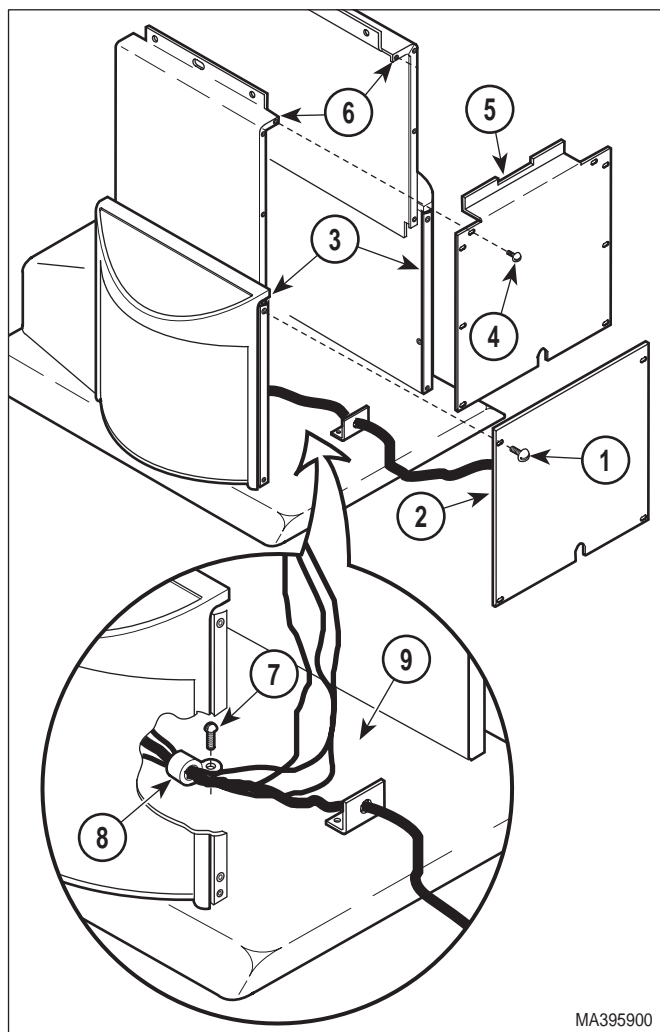
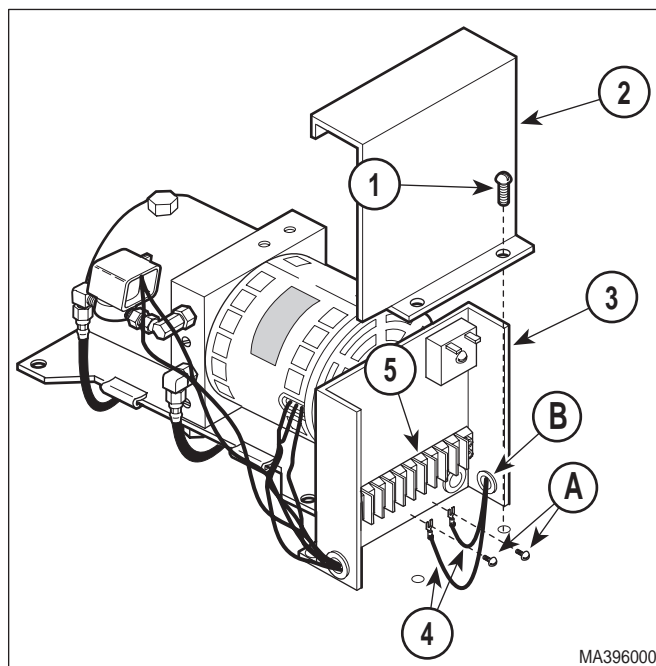
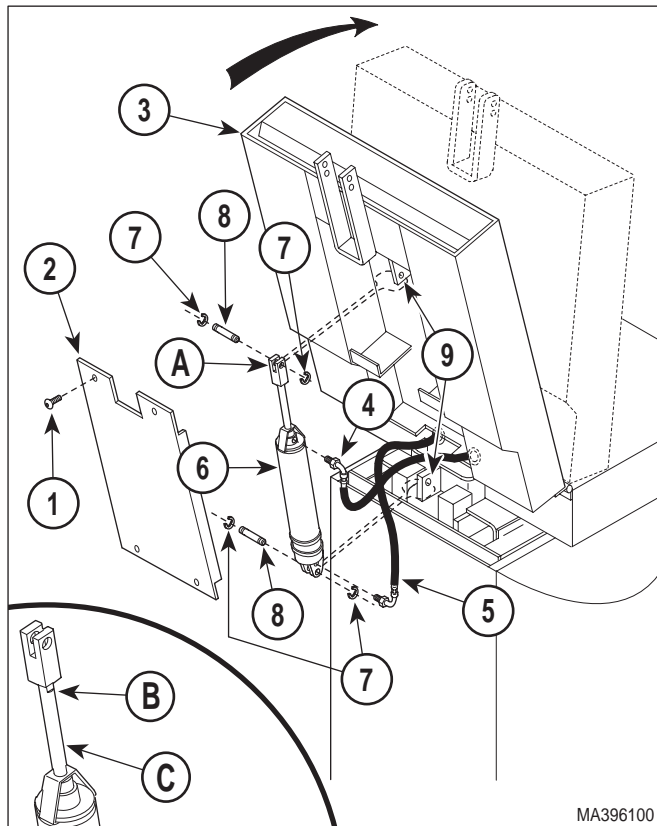

Figure 4-11. Table Access
Figure 4-12. Back Cylinder Wires Disconnection / Connection
Figure 4-13. Back Cylinder Removal / Installation
- (1) Unplug table power cord from outlet.
- (2) Remove upholstered seat section (Refer to steps 6 thru 8 of para 4.25).
- (3) Remove four screws (1, Figure 4-11) and front outer shroud (2) from left and right hand outer shrouds (3).
- (4) Remove eight screws (4) and front inner shroud (5) from left and right hand inner shrouds (6).
- (5) Remove screw (7) and wire clip (8) securing wires and hoses to base weldment (9).
- (6) Remove motor cover assembly (Refer to para 4.2).
- (7) Remove two screws (1, Figure 4-12) and control cover (2) from control panel (3).
- (8) Loosen two terminal screws (a); then tag and disconnect back cylinder wires (4) from terminal block (5).
- (9) Pull back cylinder wires (4) out thru wire hole (B).
- (10) Remove four screws (1, Figure 4-13) and back cover (2) from back weldment (3).
- (11) Cut two cable ties which are securing hose assemblies (4 and 5) to back cylinder (6).
- (12) While supporting back weldment (3), remove four E-rings (7), two clevis pins (8), and partially separate back cylinder (6) from cylinder brackets (9). Fold back section over onto seat section.
- (13) Tag hose assemblies (4 and 5).
- (14) Disconnect hose assembly (4) from back cylinder (6).
- (1) Connect hose assembly (5, Figure 4-13) to back cylinder (6).
- (2) Connect hose assembly (4) to back cylinder (6).
- (3) Install back cylinder (6) on cylinder brackets (9) and secure with two clevis pins (8) through clevis (A) with four E-rings (7).
- (4) Secure hose assemblies (4 and 5) to back cylinder (6) with two cable ties.
- (5) Route back cylinder wires (4, Figure 4-12) thru table.
- (6) Feed back cylinder wires (4) thru wire hole (B).
- (7) Connect two back cylinder wires (4) to terminal block (5) and secure by tightening two terminal screws (A).
- (8) Install control cover (2) on control panel (3) and secure with two screws (1).
- (9) Secure wires and hoses to base weldment (9, Figure 4-11) with wire clip (8) and screw (7). Install any cable ties removed during removal.
- (10) Install front inner shroud (5) on left and right hand outer shrouds (6) and secure with eight screws (4).
- (11) Install front outer shroud (2) on left and right hand inner shrouds (3) and secure with four screws (1).
- (12) Install upholstered seat section (Refer to step 6 of para 4.25).
- (13) Plug table power cord into outlet.
- (14) Lower BACK DOWN function all the way down.